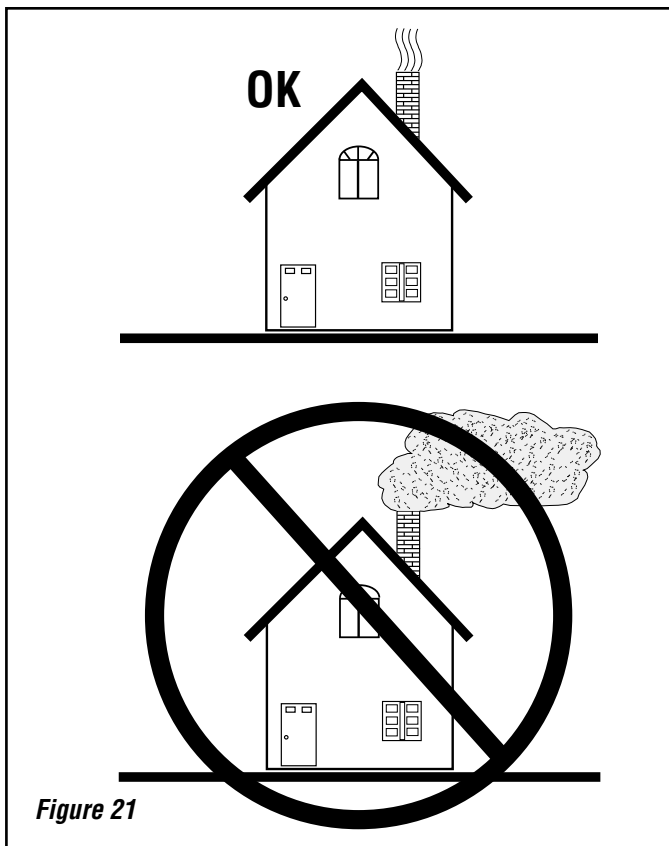

Figure 21
7. For best results, use smaller pieces of wood to get the stove or fireplace insert temperature very high before loading larger wood for sustained burns. If necessary, crack the door to allow ignition of the fuel charge. Do not leave the unit unattended while the front door is slightly open. Now you can add larger pieces of wood and after several minutes of high burn, set the left control for the desired heat output. Check the exhaust in about 15 to 20 minutes (see **Figure 21**). Large amounts of smoke indicate an improper burn setting (either too high or too low). Adjust and recheck in 5 to 10 minutes.
6. Go outside and check your chimney. More than a very small amount of smoke indicates wasted heat, creosote build up and pollution (see **Figure 21**).